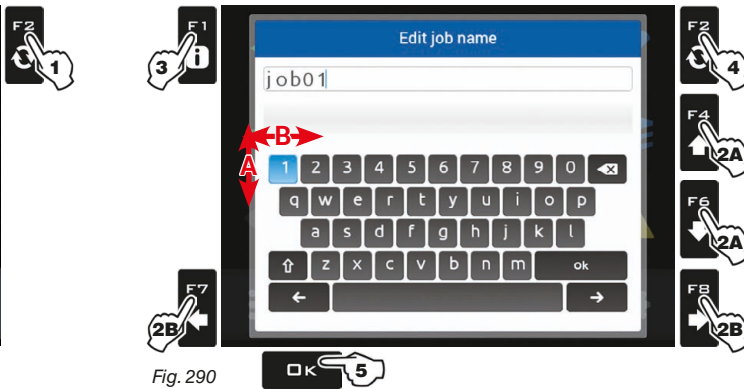

Fig. 290
- 1** Press **F2** to save current job: the name edit screen is displayed (Fig. 290). Type the name.